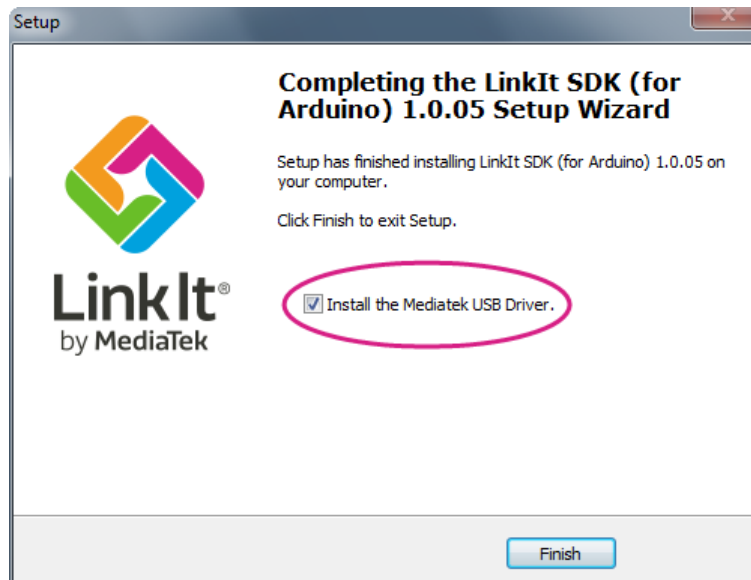

Figure 6 The option to install the MediaTek USB driver should be selected before clicking Finish
- 7 The SDK installs and on completion the dialog shown in Figure 6 displays. The first time you install the SDK, ensure that **Install the MediaTek USB Driver** is selected, before clicking **Finish**.